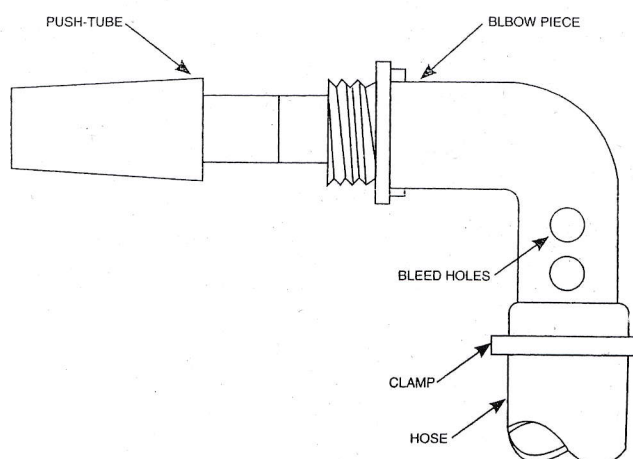

FIGURE 6
3. Refer to Figure 1.Uncoil the hose (3) and remove all twist.Using clamps(15),clamp one end of the hose to the back side of the fountainhead (1) and the other end to the inlet adapter from step 2.Cover one set of bleed holes with the hose (Fig.6). To tighten clamp,grasp "tabs" between thumb and forefinger and squeeze.Tighten securely with a pair of pliers.To open the clamp,grip one "tab" of the clamp with pliers and twist loose.
4. Using the tie wrap (14),LOOSELY attach the anchor (4) to the hose (3).The anchor (4) should be attached to the hose (3) at a point as deep as the vater plus approximately two feet.You will have to estimate what the water depth is where you want the fountain and add two feet.**CAUTION:DO NOT CONSTRICT THE HOSE BY TIGHTENING THE TIE WRAP (14) TOO TIGHT.**
6. Place the fountain assembly into the pool.Position the fountain in the desired location being careful not to crimp the hose (3).
2. Refer to Figure 6.Push the small end of the Push-in Tube (12) into the threaded end of the Elbow Piece (6) until it is secure. this is your inlet adater.
4. Using the tie wrap(14),LOOSELY attach the anchor (4) to the hose (3).the anchor (4) should be attached to the hose(3) at a point as deep as the water plus approximately two feet.You will have to estimate what the water depth is where you want the fountain and add two feet.**CAUTION:DO NOT CONSTRICT THE HOSE BY TIGHTENING THE TIE WRAP (14) TOO TIGHT.**
Height adjustment is achieved by covering more or less of the bleed holes(Fig.6) on your elbow piece (6) with the hose (3). The more holes covered,the hihger the fountain and vice versa.